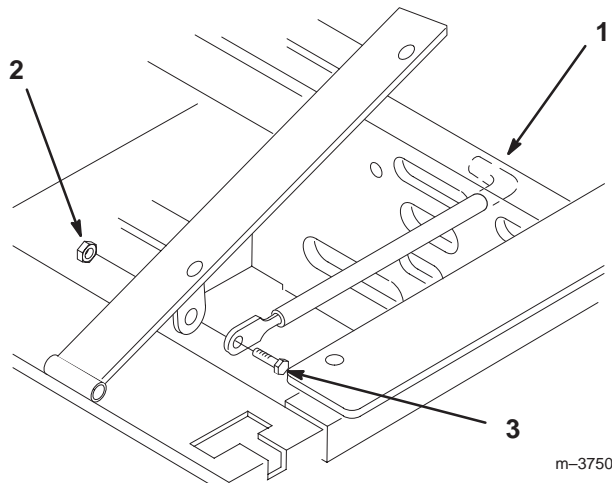

Figure 3
1. Tilt the seat up. Remove the locknut (5/16 in.) from the bolt attaching the seat retaining rod to the seat frame (Fig. 3).
2. Remove the retaining rod from the seat and insert the **L** shaped end of the rod into the hole directly above the left-side hydraulic pump (Fig. 3).
3. Place the seat retaining rod to the outside of the mounting tab of the seat frame and secure it with the bolt (5/16 x 1 in.) and locknut (5/16 in.) (Fig. 3).